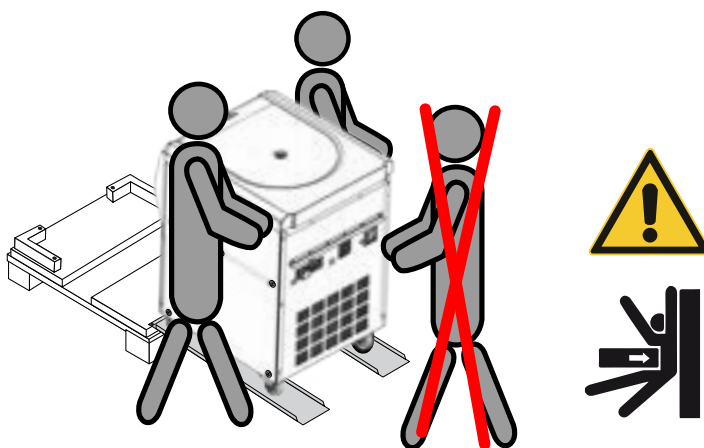

Figure 1-8: Rolling the Centrifuge off the Pallet
15. Place one person on each side of the centrifuge, as shown in Figure 1-8.